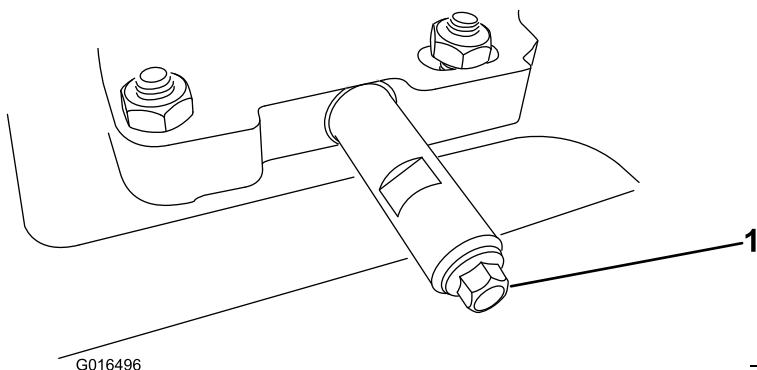

Figure 47
1. Clean the area around the oil-drain cap (Figure 47).